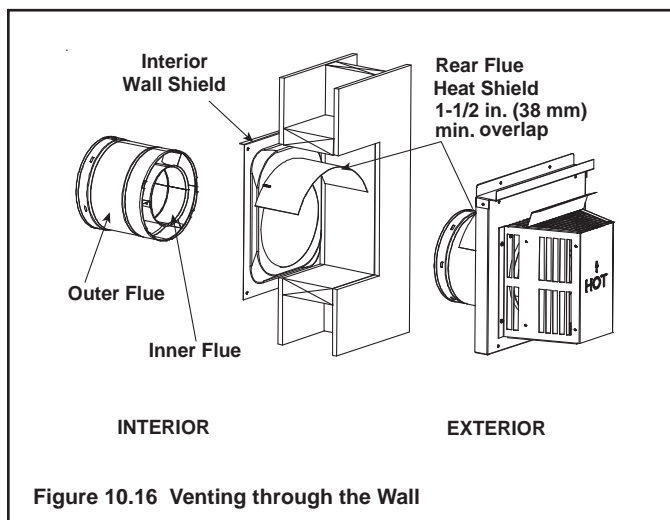

Figure 10.16 Venting through the Wall
- **DO NOT** remove the heat shields attached to the wall shield firestop and the horizontal termination cap (shown in Figure 10.16).
There are two sections of the heat shield. One section is factory-attached to the wall shield firestop. The other section is factory-attached to the cap. See Figure 10.16.